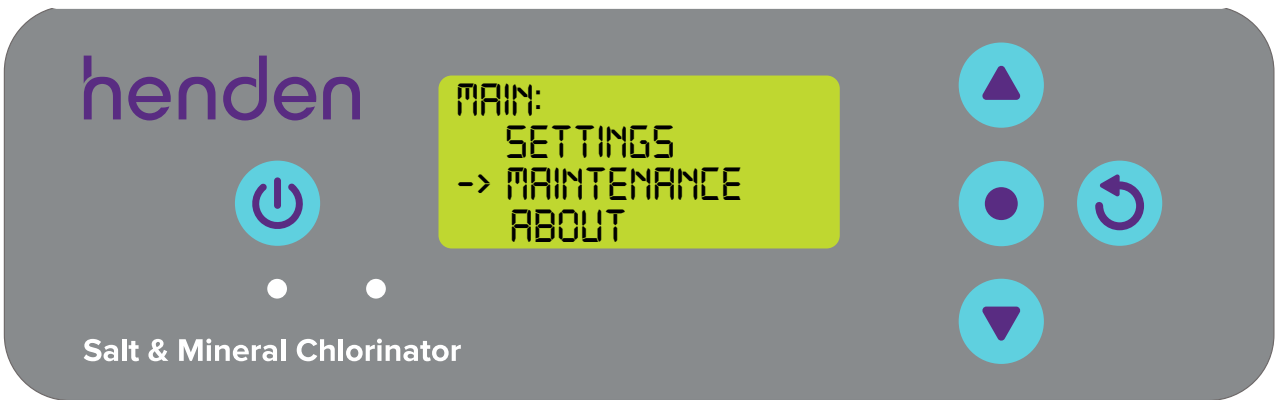

Figure 8.15
- Press the  **menu up/down** button to scroll down to maintenance (Figure 8.15)